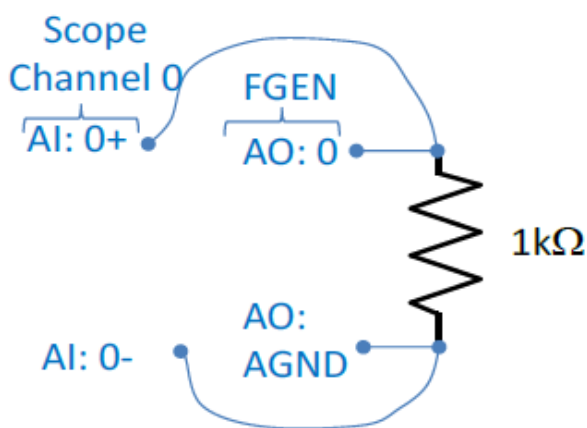

Figure 8. Resistor Wired to Both the myDAQ's Function Generator (AO: 0/AGND) and Oscilloscope (AI: 0+/-)
- a. Connect a 1k Ω resistor to the function generator (AO wires) and to Channel 0 of the scope (AI wires) as shown in the Figure 8.